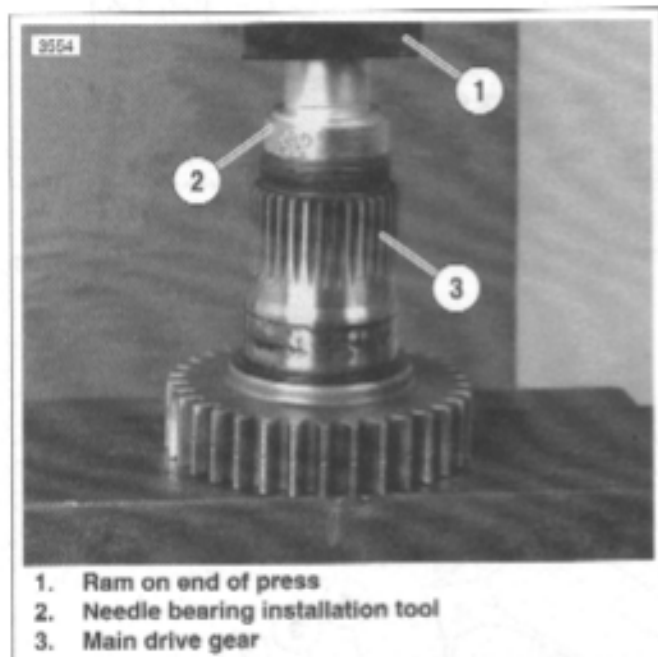

Figure 6-66. Needle Bearing Installation Tool
1. See Figure 6-66. Use INNER/OUTER MAIN DRIVE GEAR NEEDLE BEARING INSTALLATION TOOL (Part No. HD-37842-A) for assembly. Select which end of tool to use.